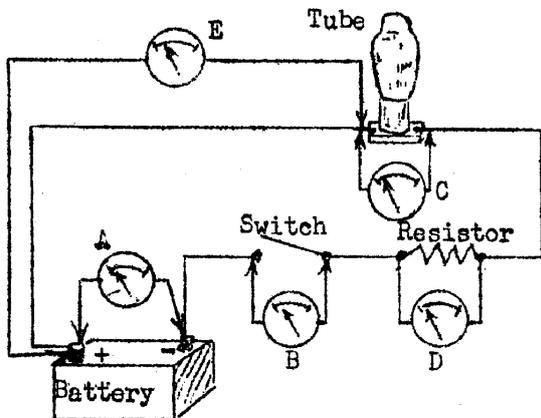
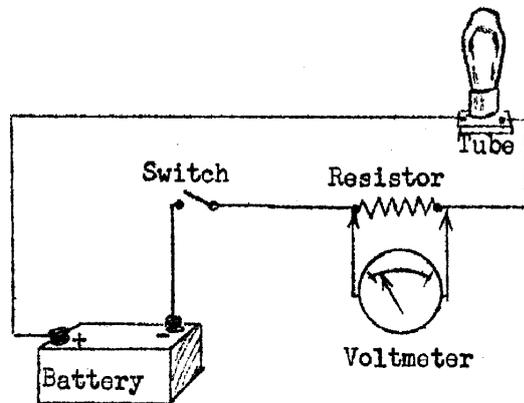
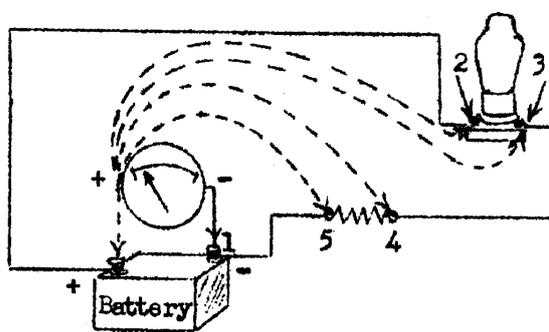

FIGURE 15.
FIGURE 16.
FIGURE 17.
To help you understand the principles involved let us take a simple filament circuit as shown by Figure 15. If the circuit shown is complete, electrons will flow away from the negative terminal of the battery, through the switch, then through the
Now look at Figure 16. Here you have exactly the same circuit as in Figure 15 - but now something is the matter - the tube filament won't light up. You would proceed with the same tests you used before, first testing the battery which would show correct voltage. Then you would get no voltage drop across the switch, showing it too to be alright. Testing the tube filament would show no voltage. Then you would test the resistor and here you find that the meter reads full battery voltage. That shows that the resistor is open circuited, that is, the wire in the resistor has broken, that no current is flowing through it, that you are getting the full voltage drop of the battery at this one place.
Just think for a minute. With the meter placed as in Figure 16, one side connects through the tube filament and the long top wire to the positive side of the battery. The other side connects through one wire, the switch, and another wire to the battery's negative terminal. With the resistor open, probably burned out, there is nothing between the voltmeter leads in the position occupied by the resistor - at least there is no electrical connection. Across the ends of such an open point you will always find the full voltage of the source. That shows an open circuit.
This is a good way of locating open circuits or defective parts. You simply get the wrong voltage drop across them. But there is one serious fault with this method it falls down when there is more than one open circuit, or more than one open point in one circuit. In Figure 16, supposing the resistor had actually been burned out, making an open point. But supposing too that the switch had been out of order, broken in such a way that it also made an open point. With no current flowing in the circuit because of the open resistor, you would get no voltage drop across the switch because you cannot get a drop of voltage without current flowing. Then you would have concluded that the switch was in order, yet it was not.
Now there is Shown in Figure 17 a test method that will locate any number of open points one after another provided you fix them as you come to them. You might say, "If this way is better, why how the other one?" There are several reasons; first you should understand all test methods; second, it is sometimes very much quicker to use the other method than the one which will be described now
In Figure 17 we have the same circuit we had in Figures 15 and 16. You take the voltmeter and attach its negative lead to the negative terminal of the battery at "1". You are going to leave that lead in that place all through this test. The first step is to touch the other voltmeter lead to the positive terminal of the battery. You should find normal full battery voltage, indicating that the battery is fresh.
In this test, just what have you been doing? You have been bridging across one after another in the whole circuit. You will see this more plainly in Figure 1, where there is shown only the battery, the meter and several points along a circuit. Of course, this really amounts to the same thing as the circuit of Figure 17.
- (1) will current flow in any of the parts of an open circuit? Why?
- (2) Does the dielectric in a condenser always make an open circuit seeing that it is an insulator? Explain your answer
- (3) Mention the three common names of electrical pressure,
- (4) Which has the greater resistance, a thick wire or a thin one, both being of the same length and of the same material? Why?
- (5) Write down the letters which stand (1) for voltage, (2) for current, and (3) for resistance.
- (6) Can you measure D.C. voltages with an A.C. voltmeter?
- (7) To measure the voltage drop in a resistor, to what two points would you connect a voltmeter?
- (8) If you find a battery completely discharged, would you look for an open circuit or for a short circuit? Why?
- (9) With the positive terminal of the voltmeter in Figure 17 connected first to point 2 and 3, what reading do you get at each of those points, assuming the tube's filament short-circuited?
- (10) In using the continuity tester described in this lesson, does the meter remain at zero with a closed circuit or with an open circuit between the test leads?